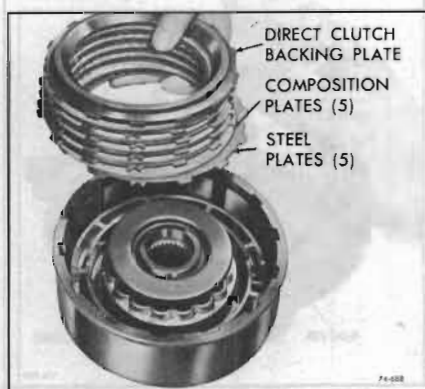

Figure 74-689
8. Install five (5) composition and five (5) steel clutch plates, starting with the waved steel and alternating steel and composition. See Figure 74-689.